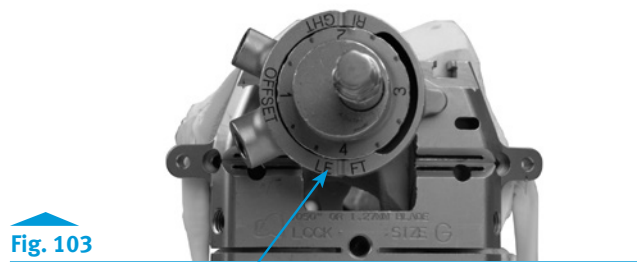

Fig. 103
- Note the orientation of the bushing by observing the numbers and marks on the bushing relative to the etched line on the posterior face of the adapter (Fig. 103).
Note: This reading will be used to set the provisional and the offset stem rotations (Fig. 103).